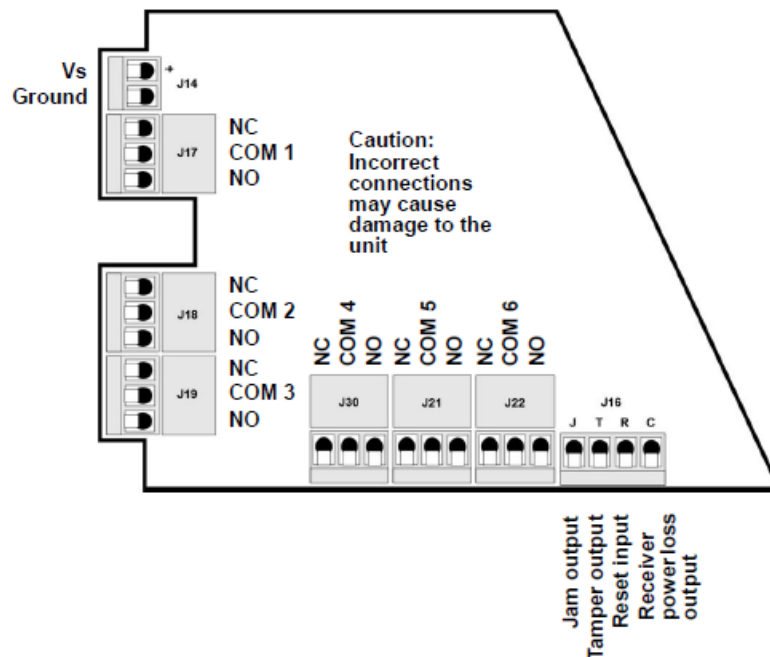

Figure 4 EN4216MR terminals
4. Connect a momentary switch to the reset input and ground (Figure 4, “EN4216MR terminals”). Must be configured for UL installations.
See Figure 4, “EN4216MR terminals” on page 3.	Line Power Loss